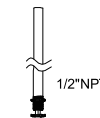

Figure 8
1. Unscrew the nuts on the 1/2" NPT (refer to Figure 8).